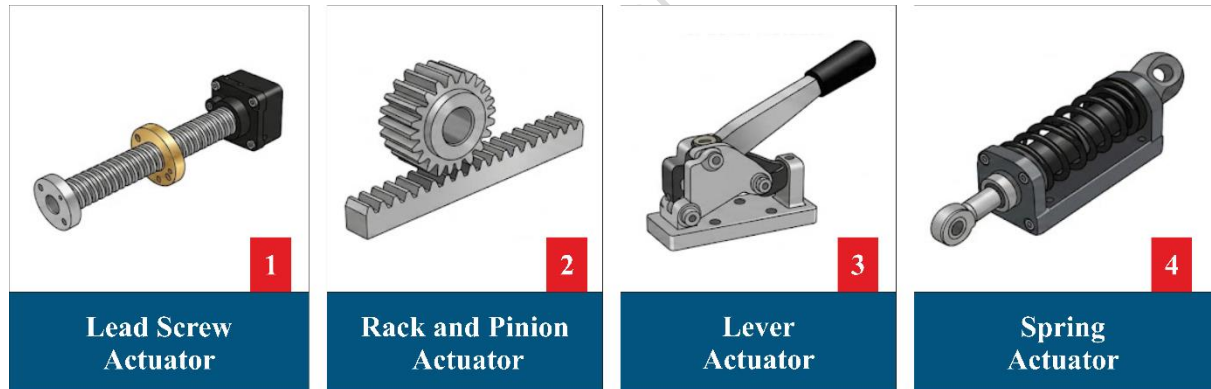

Fig.2.53: Mechanical Actuators -Types
v) Mechanical Actuators – To create motion, mechanical actuators rely on tangible components like gears, levers, or cams. When durability, ease of use, and affordability are crucial, mechanical actuators are frequently employed. Mechanical locks, manual valve systems, and hand crank machines are a few examples. Some common mechanical actuators are (Fig.2.53):